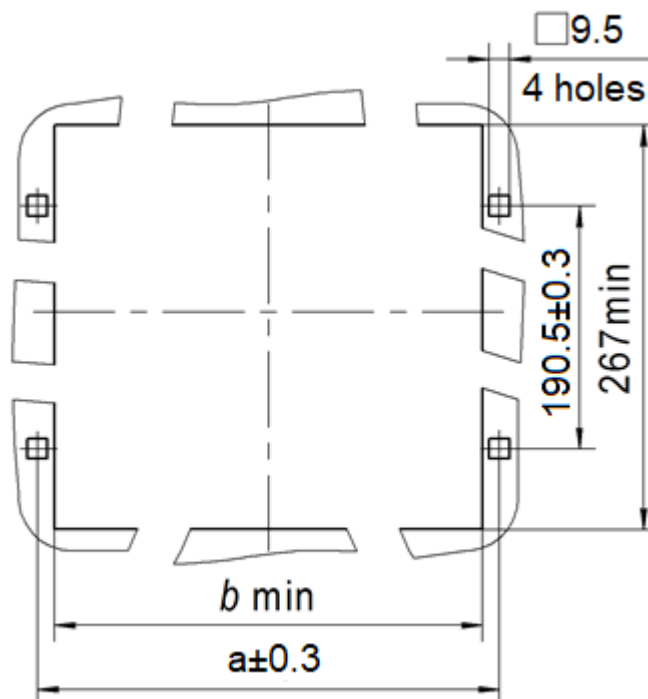

Figure 113 – Panel layout for installation of ED2 series devices
11.5.1 Panel layout for installation of the ED2 devices is shown in figure 113.